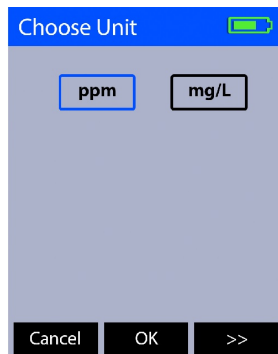

Figure 8.
2. Press **Cal/Sys** (OK) as needed to highlight either **Unit** or **Form**.
3. Press **OK** (>) to launch the **Choose Unit** screen (Figure 8) or the **Choose Form** screen (Figure 9).
4. Press » (OK) to navigate to the desired parameter option.